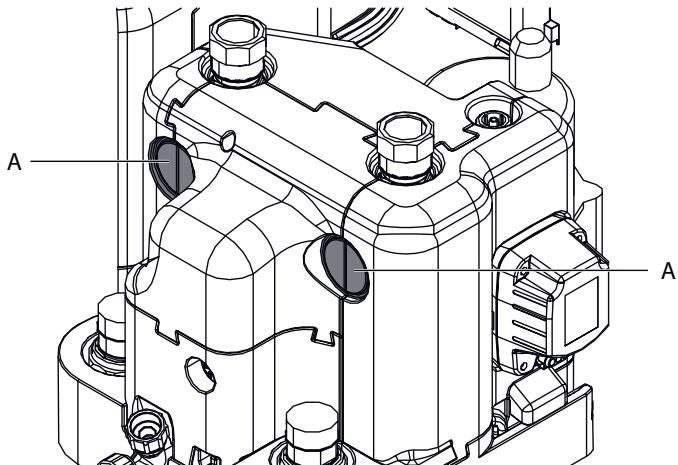

Fig. 4-12 Thermal insulation cut-out
- Cut out the side transit points in the thermal insulation (fig. 4-12, item A) using a suitable tool.